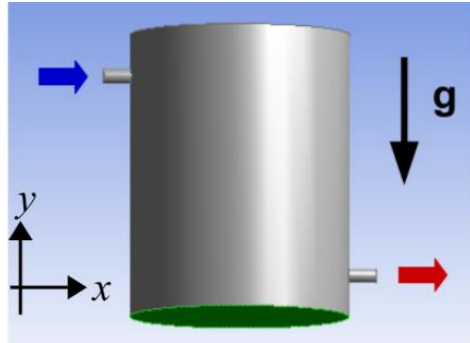

Fig. 1 The general setup of the prototypical water heater. The bottom plate is in green. Inlet and outlet are indicated by blue and red arrows, respectively.
Background: A prototype of a water heater, illustrated in Figs. 1-3, has a main cylindrical tank and two cylindrical side pipes for the inlet and outlet. All solid surfaces of the system are thermally insulated, except that the temperature at the bottom plate (colored in green in Fig. 1) of the main cylinder is externally maintained at a constant 55°C. The temperature of the water entering the inlet is fixed at 20°C. As cool water flows through the tank, it is warmed up by the hot plate at the bottom. Thus, the temperature of the outflow generally exceeds 20°C. This task will use ANSYS-Fluent to compute the temperature of the outflow at the steady state, taking into account the buoyancy effect due to density variation of water.
The key geometric parameters are defined in Figs. 2 and 3. Use $H = 0.8$ m, $D = 0.6$ m, $d = 0.06$ m, $L = 0.15$ m, $Z_1 = 0.6$ m, and $Z_2 = 0.2$ m. In all descriptions for this task, we orient the axis of the main cylinder in y -direction and the axes of the side pipes in x -direction, as illustrated in Fig. 1a. Gravity is set to point in the negative y -direction, as shown in Fig. 1. (You may use a different definition of the directions, as long as consistency is maintained through the task.)
- (i) A contour plot of the y -velocity (not to be confused with *velocity magnitude*) in the *plane of symmetry* for the steady solution. Note that, by the definition given in Fig. 1, y is the direction parallel to the gravity vector.